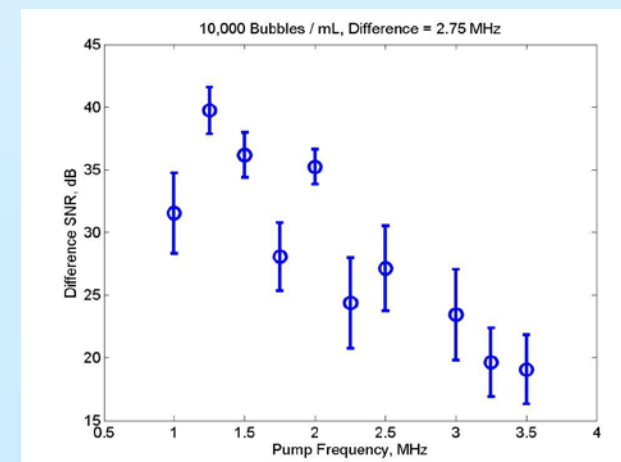

Figure 6. Effect of frequency on difference signal
- For detecting Definity™ the optimal pump frequency is **1.25 MHz** and the image frequency is **4 MHz**. The optimal frequencies may be different for DCS-related microbubbles (Figure 6)